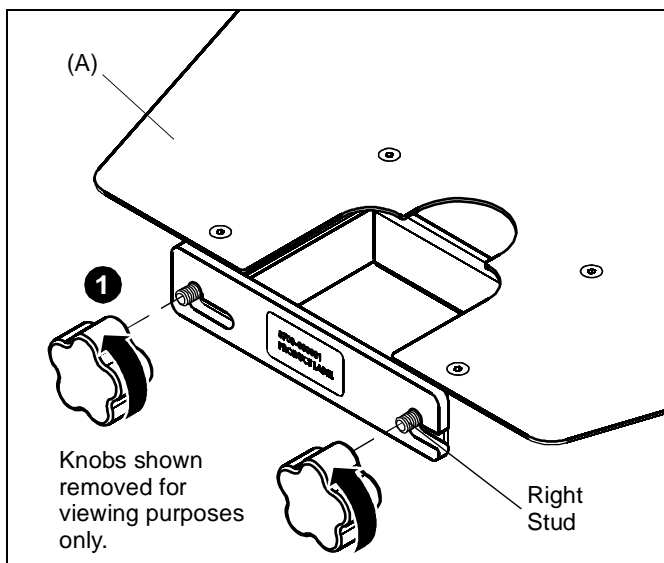

Figure 2
1. Loosen back bracket on shelf (A) by turning both knobs counterclockwise to loosen them. **Do NOT remove knobs.** (See Figure 2)